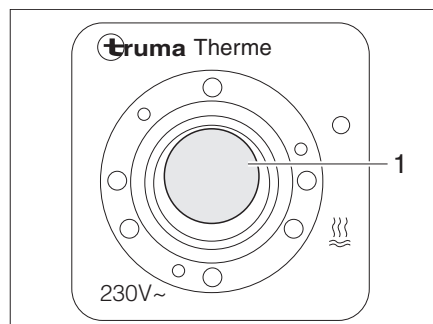

Fig. 134 Operating switch for water heater
The electrical mode of operation is activated using the operating switch (Bild 134). The indicator lamp (Bild 134,1) on the switch must light up.
- Switch on the operating switch (Bild 134). Indicator lamp (Bild 134,1) on the switch lights up.
- Switch off the operating switch (Bild 134). The indicator lamp (Bild 134,1) on the switch goes off.
- Switch off the operating switch (Bild 134). The indicator lamp (Bild 134,1) in the switch is not on.